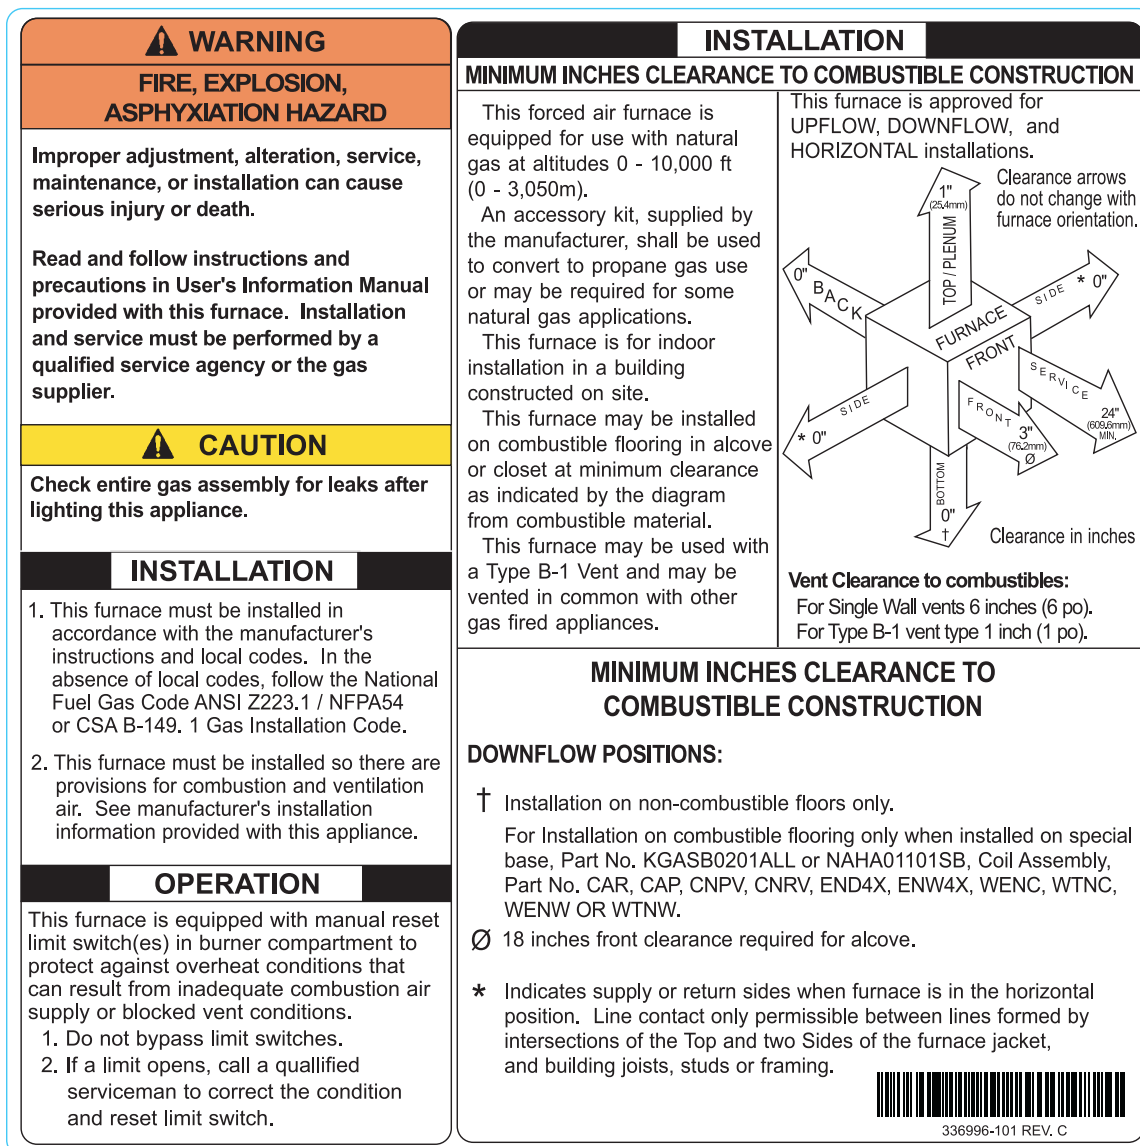

Fig. 2 – Clearances to Combustibles
11. See Fig. 2 for required clearances to combustible construction.
13. These furnaces SHALL NOT be installed directly on carpeting, tile, or any other combustible material other than wood flooring. In downflow installations, factory accessory floor base MUST be used when installed on combustible materials and wood flooring. Special base is not required when this furnace is installed on manufacturer's coil model numbers WENC, WTNC, WLNC, WENW, WTNW, WLNW or coil casing model number NAEAlis used. See Fig. 2 for clearance to combustible construction information.